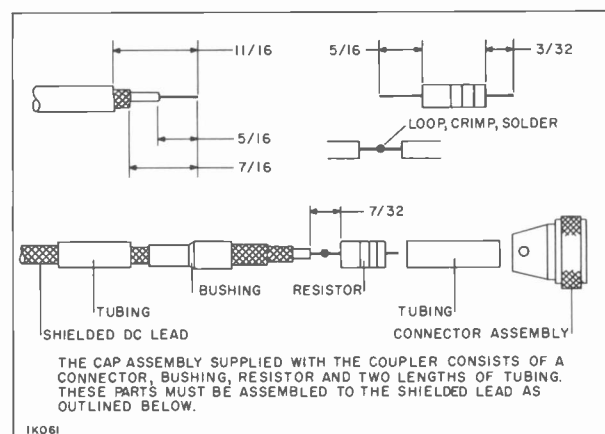

Figure 68. Connector Cap Assembly Details
3. Install the Type N to BNC coaxial adapter (MI-560883 item 2) at the TRANSMITTER connector of directional coupler Z601. Directional coupler Z601 is supplied preassembled to panel assembly, MI-560883 item 6.
4. Install panel assembly, MI-560883 item 6, immediately above the BTE-10AT Exciter Main Frame using the hardware provided.
5. Install connector plug P602 (prewired to panel assembly MI-560883 item 6) at J102 on the main frame.
6. Install cable assembly (MI-560883 item 1) between the BTE-10AT rf exciter output jack J2 and directional coupler Z601 TRANSMITTER jack, utilizing coaxial adapter installed in step 3. Refer to Figure 68 for connector cap assembly details (MI-560883 part of item 6).